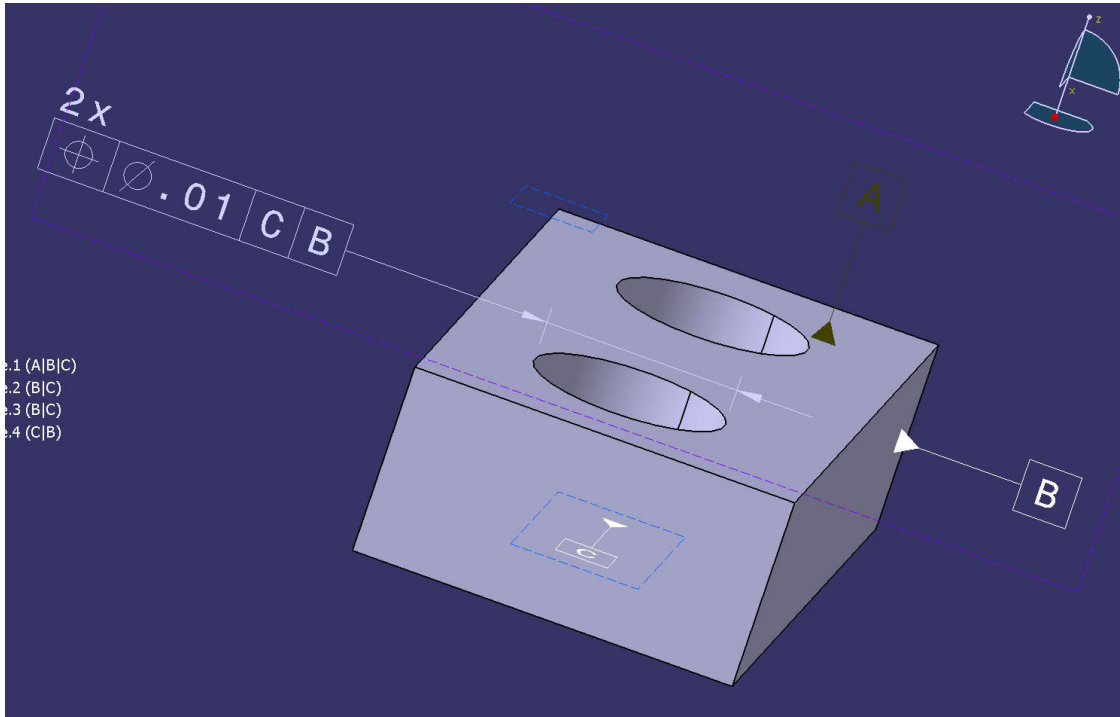

Figure 2: Shape of the GD2 model
7. Assign a position tolerance to the pattern of holes diameter of .01 referencing Datum C and B in that order of precedence. See Figure 2 below.
9. Add a linear dimension for the diameter of a hole (not shown on Figure 2).